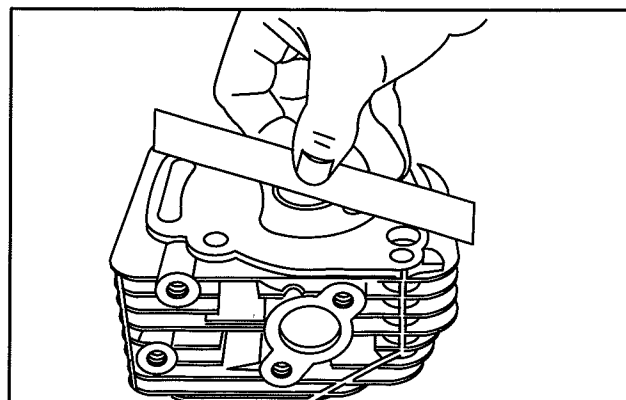

Fig. 10 – Check Cylinder Head Distortion
1. Check cylinder head, Fig. 10.